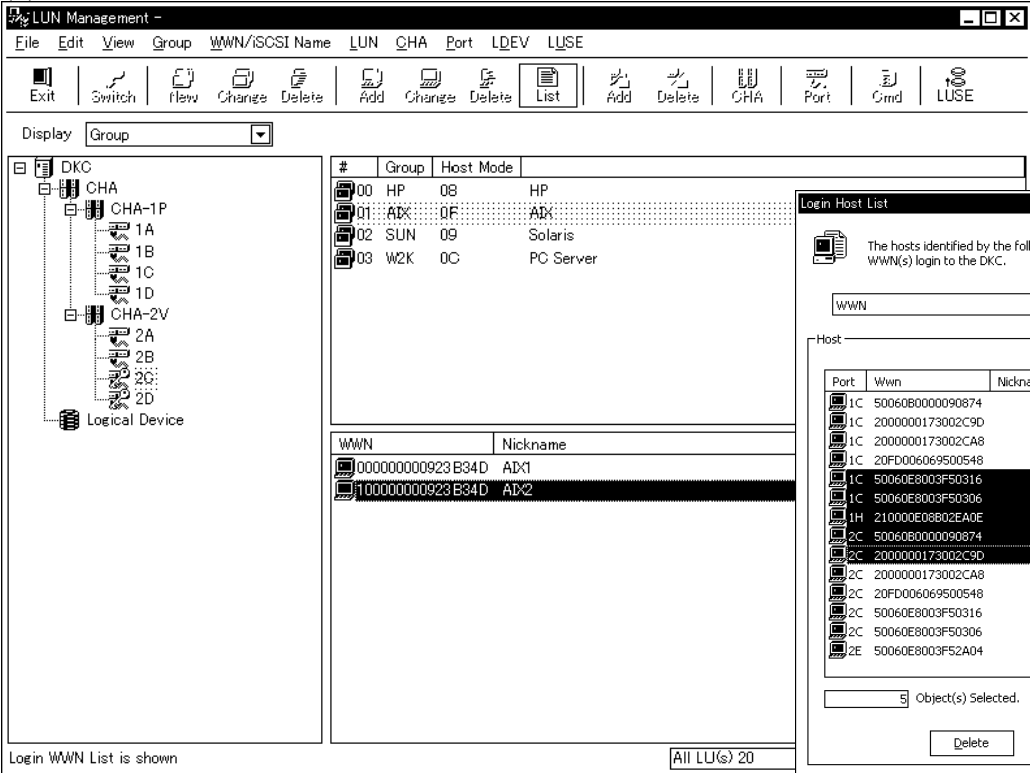
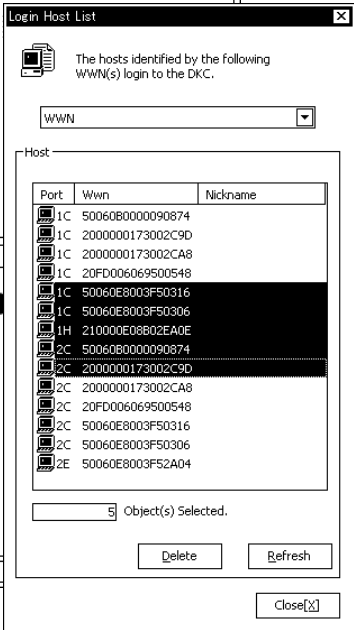

Figure 7.1 Main Window
Figure 7.2 Login Host List Window
Select (DR) [Login List] from the [WWN/iSCSI Name] menu in the Main Window (Figure 7.1), Login Host List Window (Figure 7.2) is displayed.